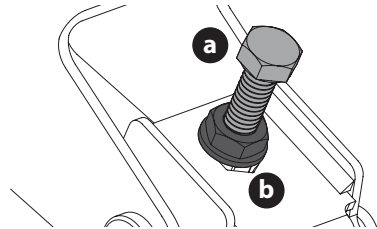

Fig. 35
3. Locate the adjustment bolts (a) on the left and right side of the deck (Fig. 35).
4. Loosen, but do not remove, the jam nuts (b) on the adjustment bolt. Adjust either the right or left adjustment bolt up or down as necessary until the side-to-side heights are equal (Fig. 35).
5. When proper adjustment is achieved, re-tighten the jam nuts (b). Tighten to 200 in-lbs (23 N-m) (Fig. 35).